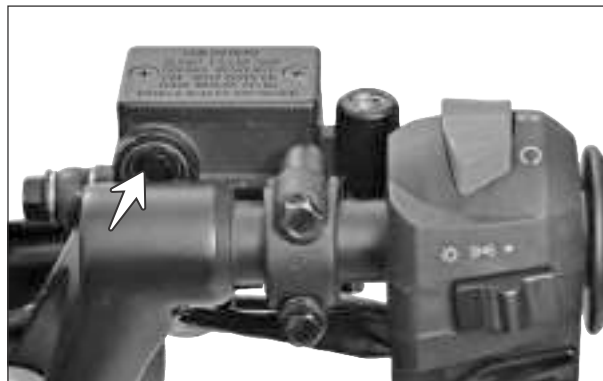

Fig. 2.110
- Inspect the brake fluid level in master cylinder through the inspection window. The level should be above the lower mark (A) provided on the reservoir body. (Fig. 2.110)